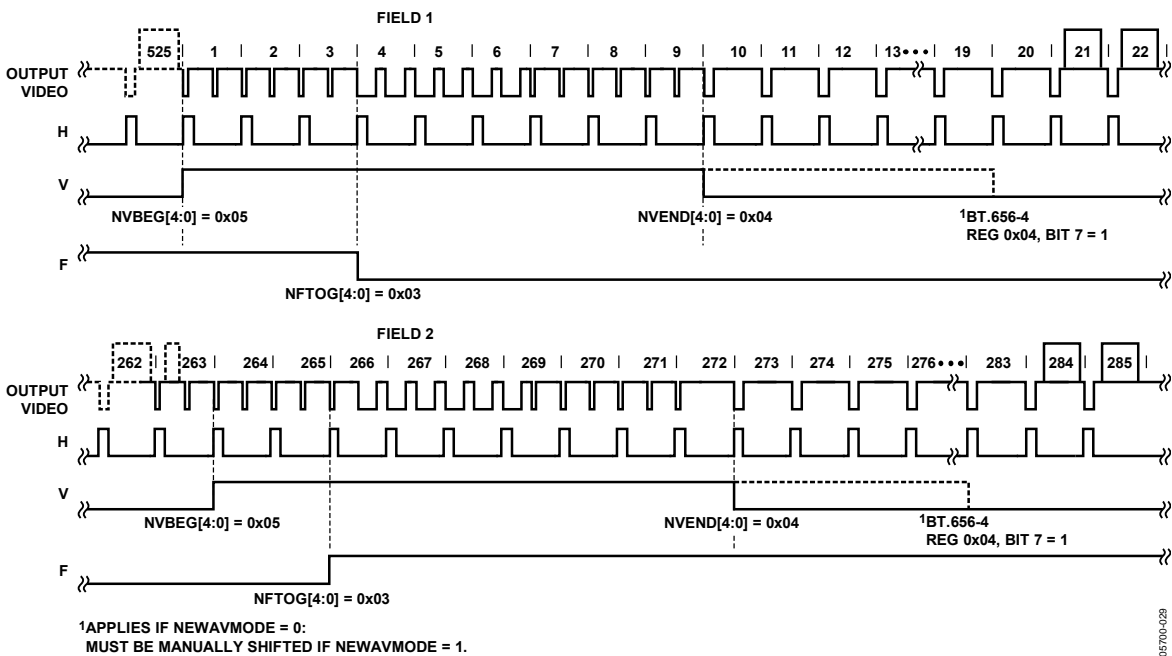
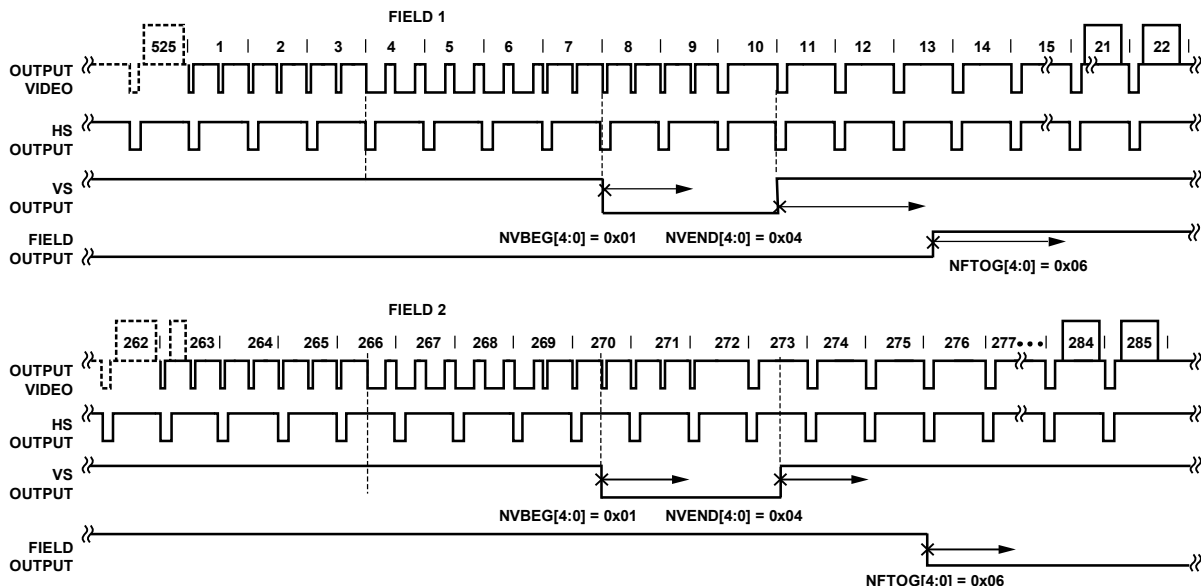
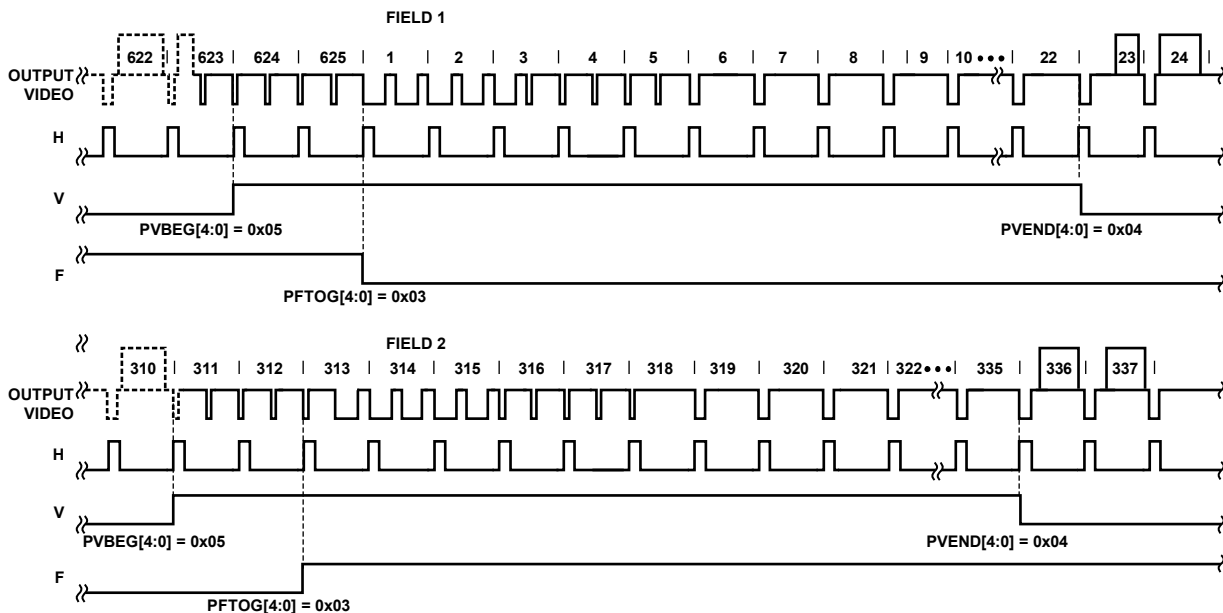
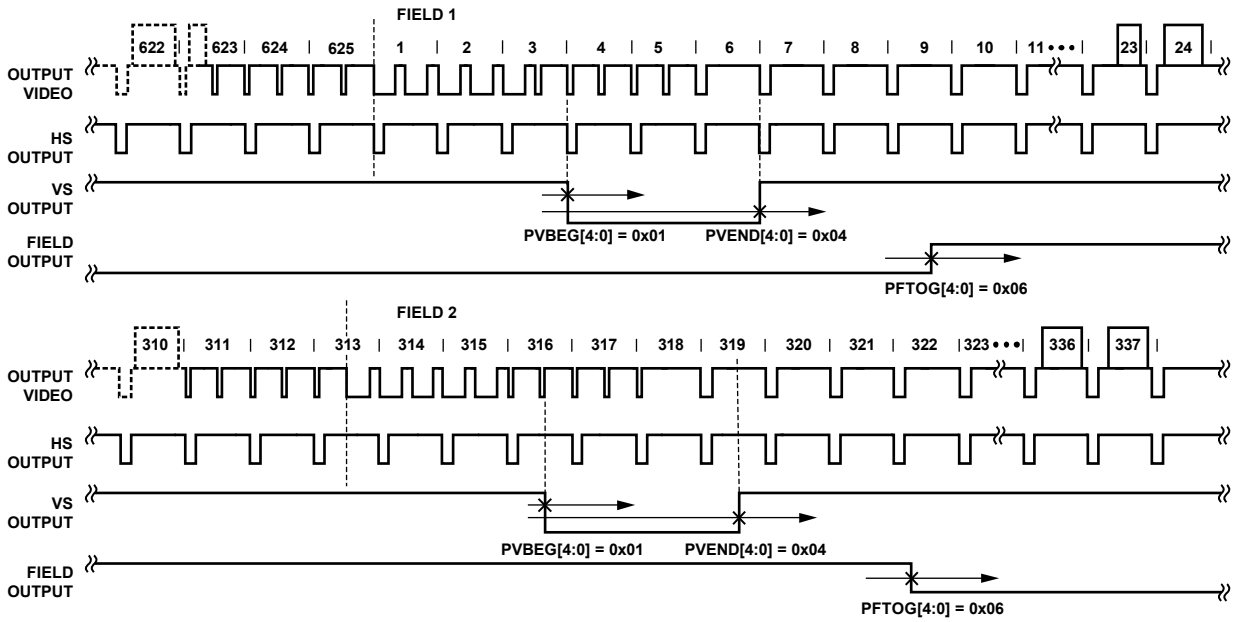

Figure 36. NTSC Default, ITU-R BT.656 (the Polarity of H, V, and F is Embedded in the Data)
Figure 37. NTSC Typical VSYNC/FIELD Positions Using the Register Writes in Table 65
Figure 41. PAL Default, ITU-R BT.656 (the Polarity of H, V, and F Is Embedded in the Data)
Figure 42. PAL Typical VS/FIELD Positions Using the Register Writes Shown in Table 66
Setting NEWAVMODE to 1 (default) enables the manual position of the VSYNC, FIELD, and AV codes using Register 0x32 to Register 0x33 and Register 0xE5 to Register 0xEA. Default register settings are CCIR656 compliant; see Figure 36 for NTSC and Figure 41 for PAL. For recommended manual user settings, see Table 65 and Figure 37 for NTSC and Table 66 and Figure 42 for PAL.
**Table 65. User Settings for NTSC (See Figure 37)**
Table 66. User Settings for PAL (See Figure 42)